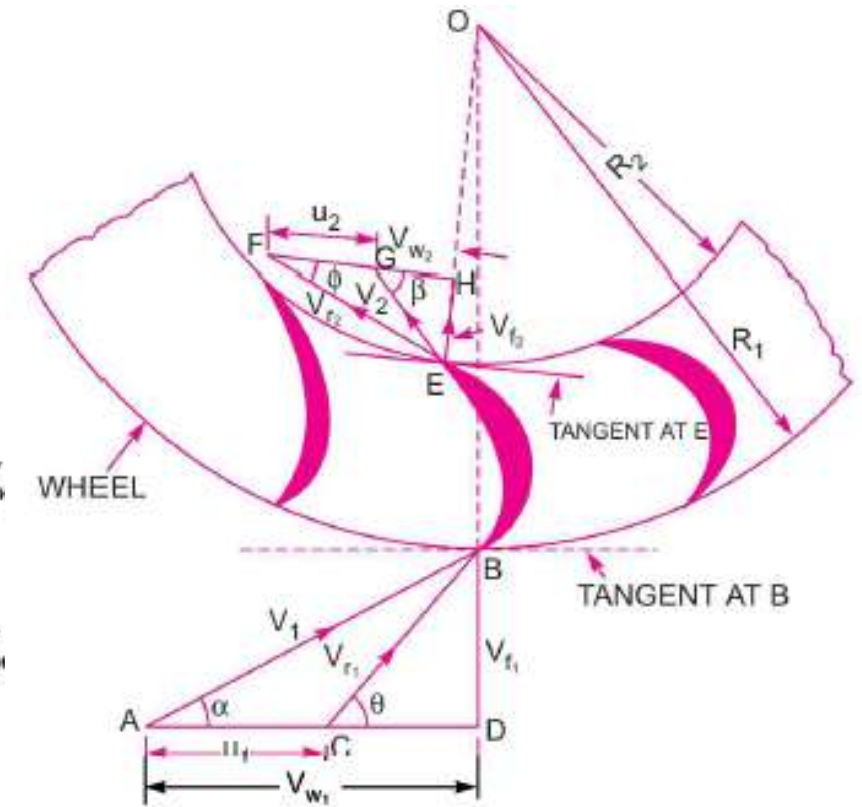

Fig. 17.23 Series of radial curved vanes mounted on a wheel.
17.4.6 Force Exerted on a Series of Radial Curved Vanes. For a radial curved vane, the radius of the vane at inlet and outlet is different and hence the tangential velocities of the radial vane at inlet and outlet will not be equal. Consider a series of radial curved vanes mounted on a wheel as shown in Fig. 17.23. The jet of water strikes the vanes and the wheel starts rotating at a constant angular speed.
The velocity triangles at inlet and outlet are drawn as shown in Fig. 17.23.
If the angle β in Fig. 17.23 is an obtuse angle then work done per second will be given as